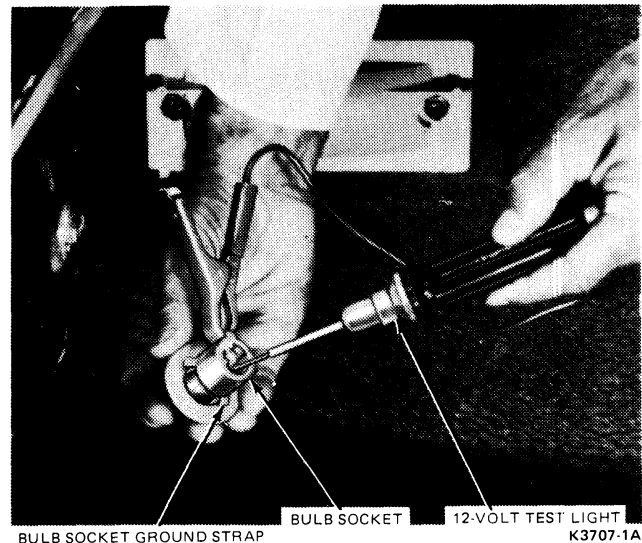

FIG. 7 Bulb Socket Ground Test
3. Connect 12-volt test light to ground strap on bulb socket (Fig. 7).